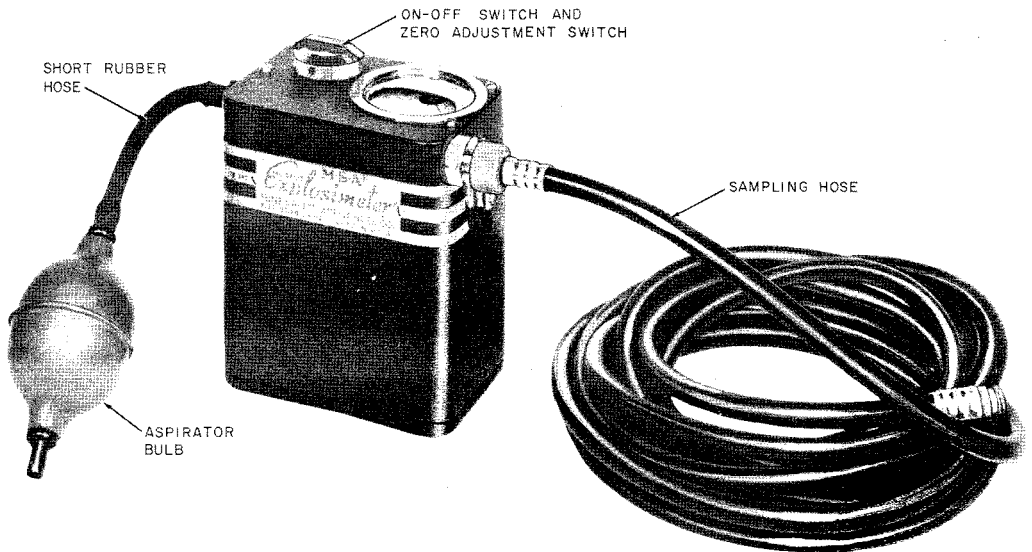

Fig. 1—B Gas Indicator
2.01 The B Gas Indicator illustrated in Fig. 1 operates on the principle of the Wheatstone bridge. The arms of the bridge consist of a detector filament and three resistors. These elements, together with the indicating meter and six (flashlight) KS-14711 (Primary) Batteries, are housed in a metal case. The indicator weighs about 4 pounds. The following additional equipment is supplied with the indicator: